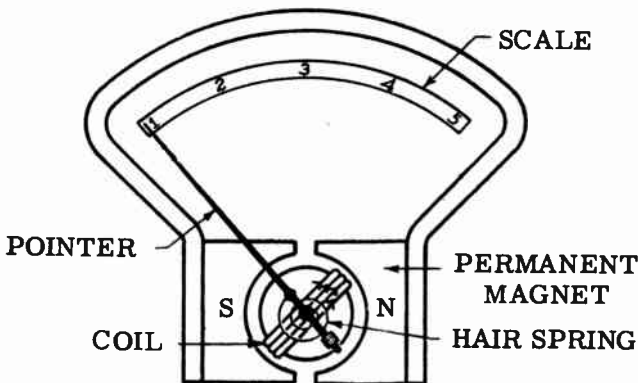

FIG. 3-15. THE D'ARSONVAL METER MOVEMENT.
**3 D'ARSONVAL MOVEMENT.** The D'Arsonval type of meter movement uses the principle of magnetic attraction and repulsion that has been described earlier in this chapter. A simplified illustration of the D'Arsonval movement is shown in Fig. 3-15. A coil of fine wire is suspended by two spiral springs in a magnetic field created by a permanent horse-shoe magnet.
The spiral springs at the end of the coil (in Fig. 3-15 only one spring is shown; the other is hidden by the coil), tend to keep the coil from rotating. The magnetic reaction between the coil and the permanent magnet overcomes this resistance of the springs. If we increase the current through the coil, the coil will rotate more. This is due to the increased magnetic reaction between the permanent magnet and the stronger field of the coil. When the current through the coil is removed, the two springs force the coil to return to its original position.